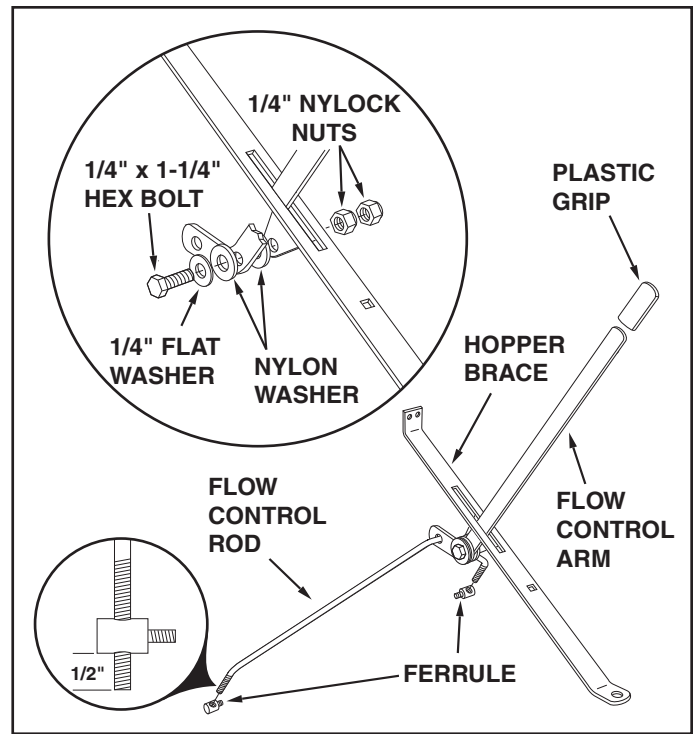

FIGURE 2
3. Assemble the plastic grip onto the end of the flow control arm as shown in figure 2.
4. Insert the flow control arm through the slot in the hopper brace. Place a nylon washer on each side of the arm and attach it to the brace's welded bracket using a 1/4" x 1-1/4" hex bolt, a 1/4" flat washer and two 1/4" nylock nuts as shown in figure 2. **Tighten** the first nylock nut until there is noticeable resistance when moving the flow control arm, then **tighten** the second nylock nut.
5. Place the flow control rod through the hole at the end of the flow control arm. Assemble the two ferrules onto the threaded ends of the rod so that approximately 10 threads (1/2") of the rod extends through the ferrules. See figure 2.